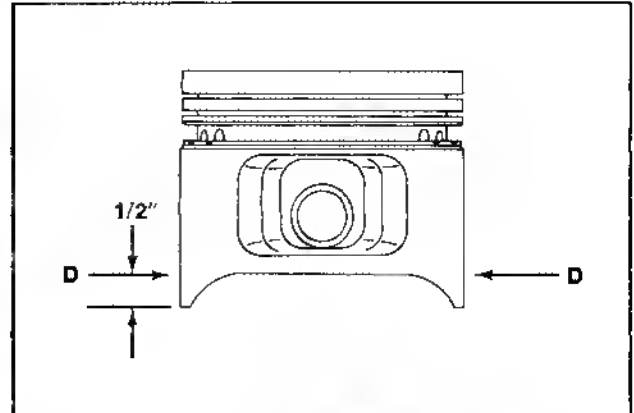

Figure 10-4. Measuring Piston Diameter (Style "D" Piston)
1. Use a micrometer and measure the diameter of the piston, 1/2" above bottom of piston skirt, perpendicular to the piston pin (see Figure 10-4).